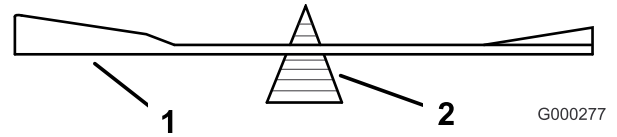
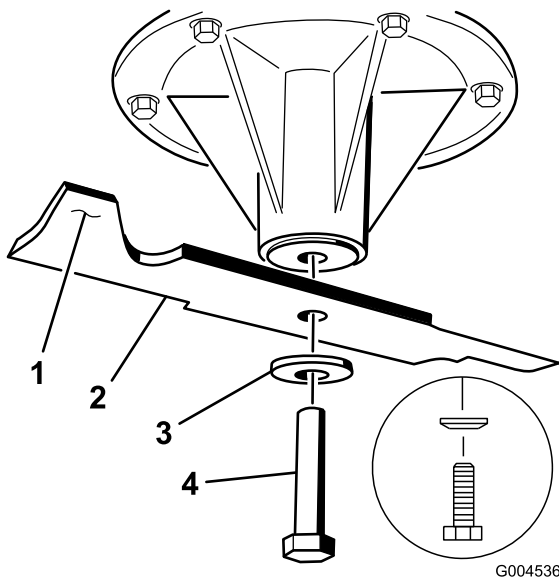

Figure 92
Figure 93
2. Check the balance of the blade by putting it on a blade balancer (Figure 92). If the blade stays in a horizontal position, the blade is balanced and can be used. If the blade is not balanced, file some metal off the end of the bail area only (Figure 93). Repeat this procedure until the blade is balanced.
1. Install the left and center blades, curved washers, and blade bolts to the spindle shafts (Figure 93 and Figure 94).
Note: Ensure the curved-washer cone is installed towards the bolt head (Figure 93).
2. Install the right blade, curved washer, and blade bolt (left-hand threaded bolt) to the spindle shaft (Figure 93 and Figure 94).